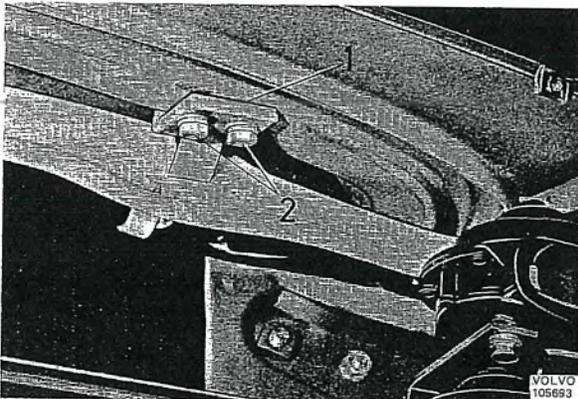
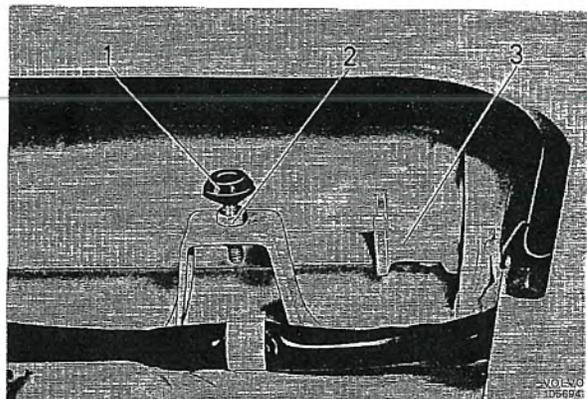

Fig. 8-6. Hood hinges
Fig. 8-7. Hood lock and rear adjustment
3. Remove the hood by unscrewing the hood hinge bolts (2, Fig. 8-6) from the hood. In order to get at the bolts for the right-hand hinge, the outer part of the air cleaner must be taken off.
laterally and longitudinally. The hood elevation can be adjusted at the front end by placing shims (1, Fig. 8-6) between hood and hinges, and at the rear end with shims placed between hood and lock brackets. At the rear edge there are also adjustable rubber stops (1, Fig. 8-7).
The hood lock is mounted at the firewall and is operated by means of a handle under the dashboard. The hood tensioning with the hood down is adjusted partly by screwing in or out the rubber stops (1, Fig. 8-7) and partly by placing shims under the lock catches on the hood. The lock brackets are bolted to